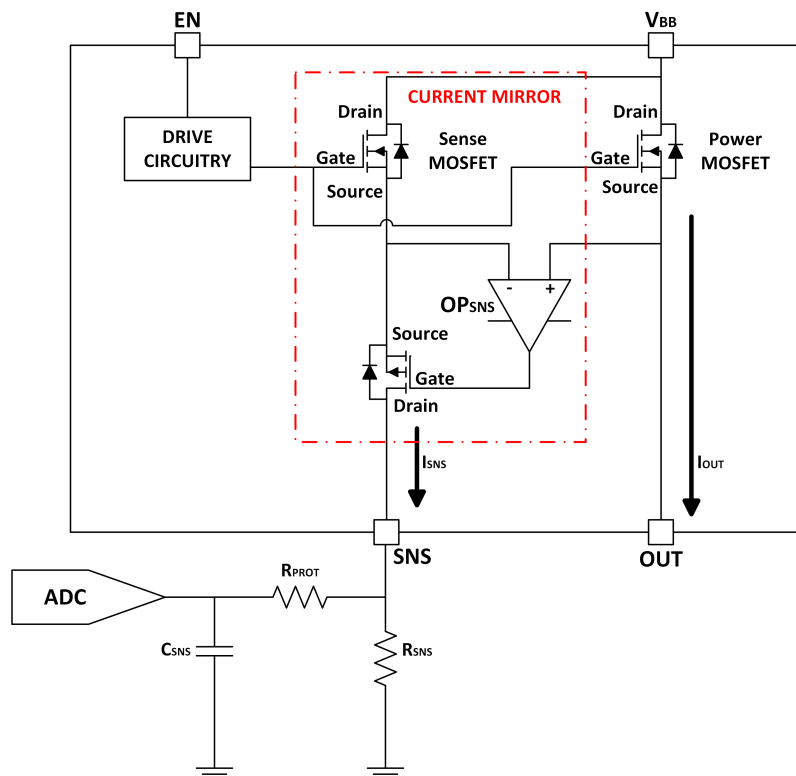

Figure 1. TPSxHxxx Current Sense Circuit
Figure 1 describes the construction of the current sense circuitry.
- Low-Pass RC filter between the SNS pin and the ADC input. Figure 1 illustrates this filter. The typical range for the capacitor C_{SNS} is 100 pF to 10 nF. The typical value for the protection resistor R_{PROT} is 15 k Ω . The designer must select a C_{SNS} capacitor value based on system requirements. A larger value provides improved filtering while a smaller value allows for faster transient response.